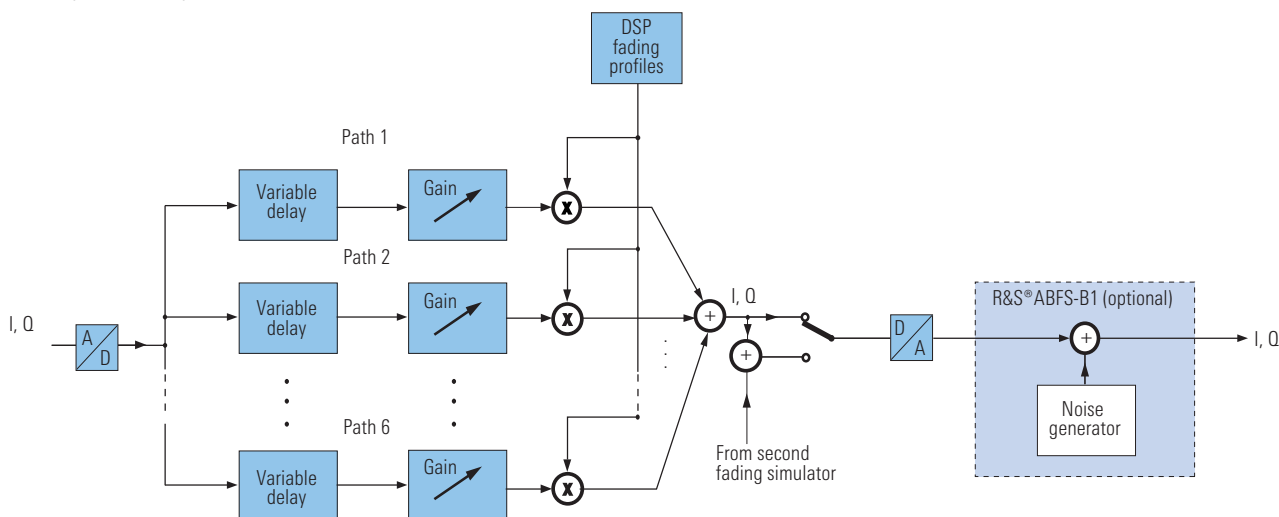

Fig. 5: Diagram of fading simulator
- ◆ Coupling of two channels so that a channel with 12 propagation paths is obtained (Fig. 5 provides a more detailed insight into the operation of the fading simulator)